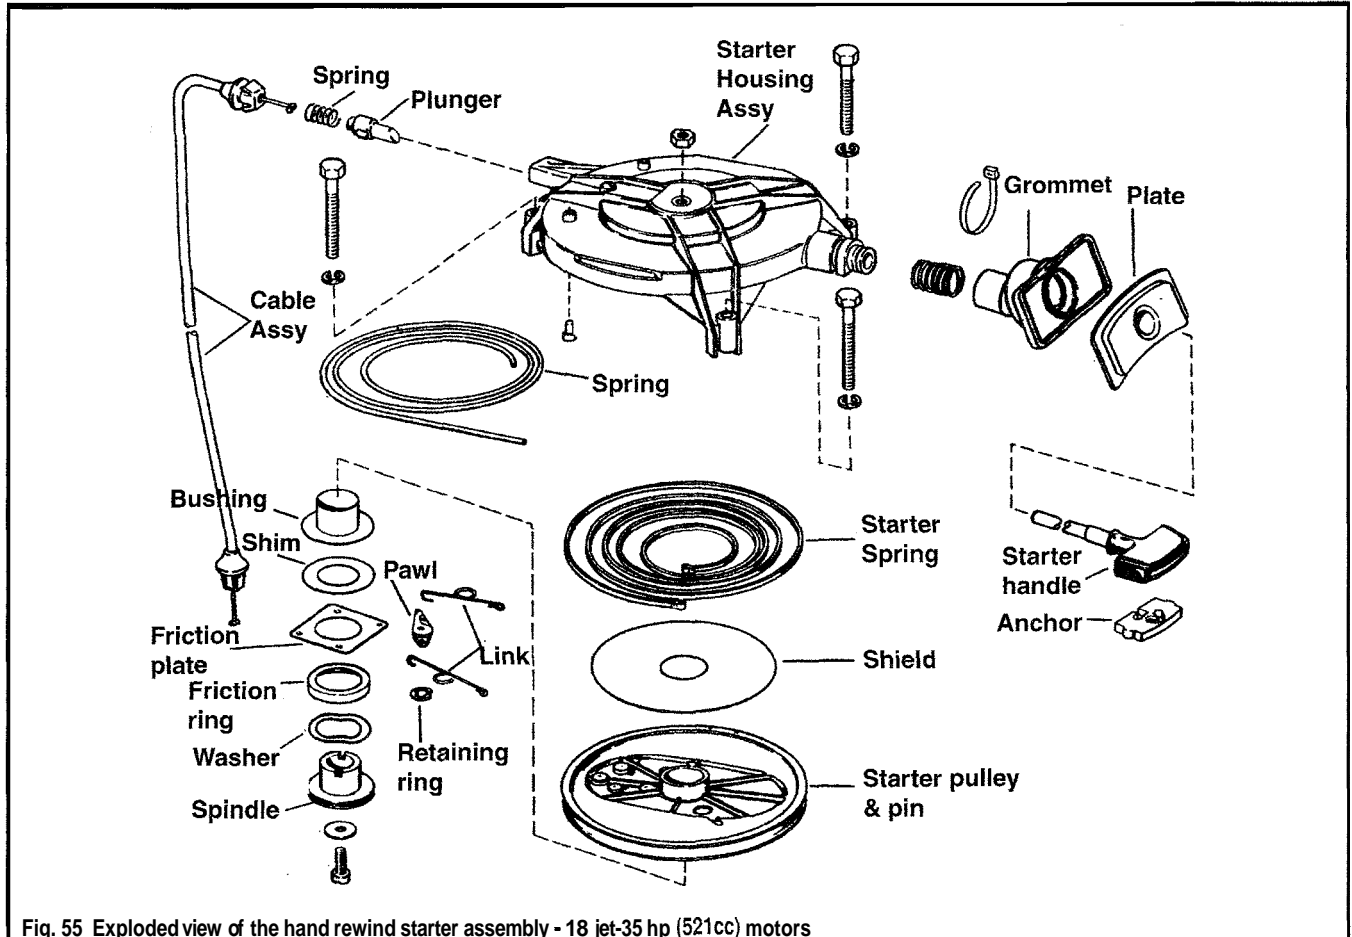

Fig. 55 Exploded view of the hand rewind starter assembly - 18 jet-35 hp (521cc) motors
- See Figures 55 and 56
- ◆ See Figures 55 and 57 thru 62